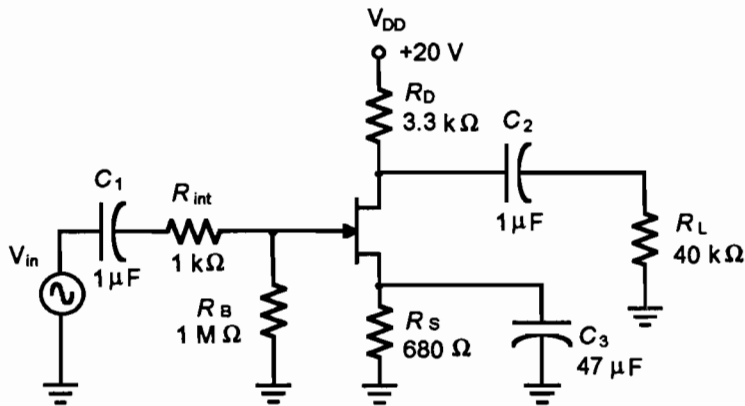

Figure 41.1
1. Build the circuit of Figure 41.1 and apply DC power.
6. For the circuit of Figure 41.1, calculate the low frequency cutoff point of the output coupling and bypass capacitors.
1. If the amplifier of Figure 41.1 were part of a music system amplifier, and if the lower corner frequency shifted up to 600 Hz, describe the effect this would have on the system.
2. If the amplifier of Figure 41.1 were used as part of a public address system used for voice announcements, and if the upper corner frequency shifted down to 1400 Hz, would this system be affected as much as would a stereo music amplifier? Explain why you chose your answer.
3. The circuit of Figure 41.1 uses \_\_\_\_\_ bias.
4. The amplifier of Figure 41.1 is a common drain amplifier.